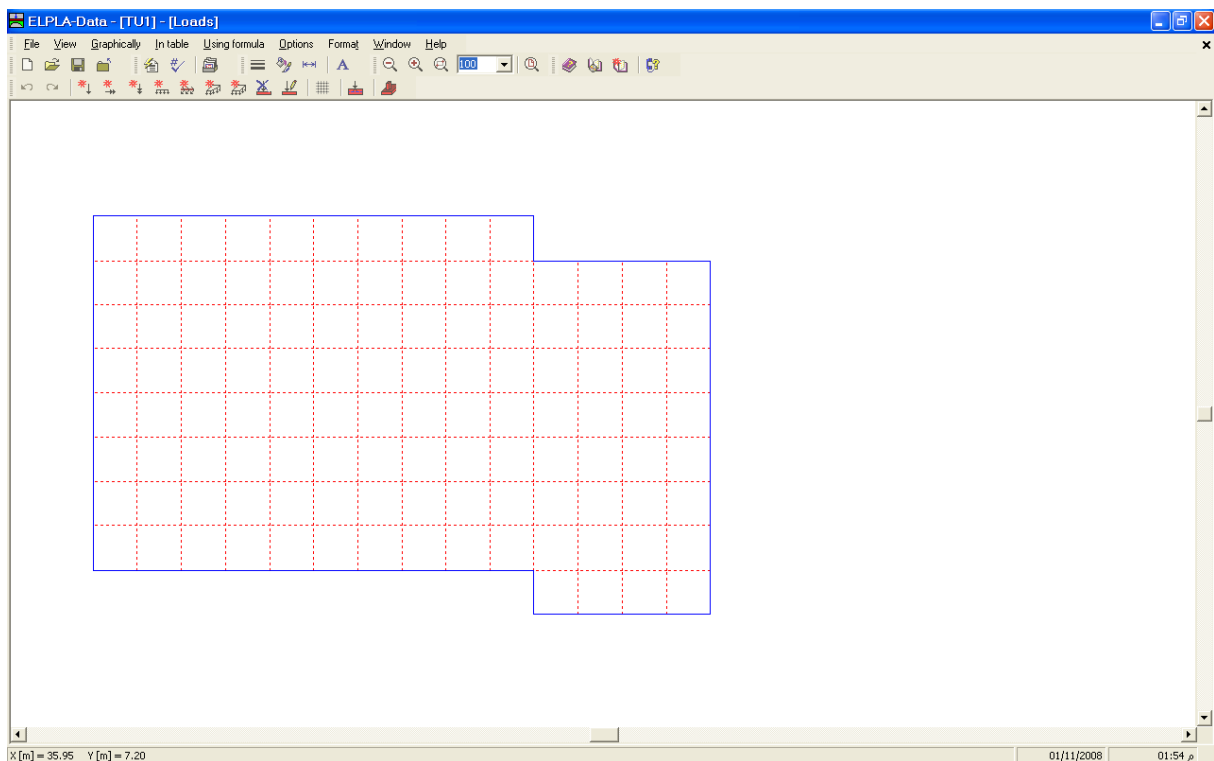
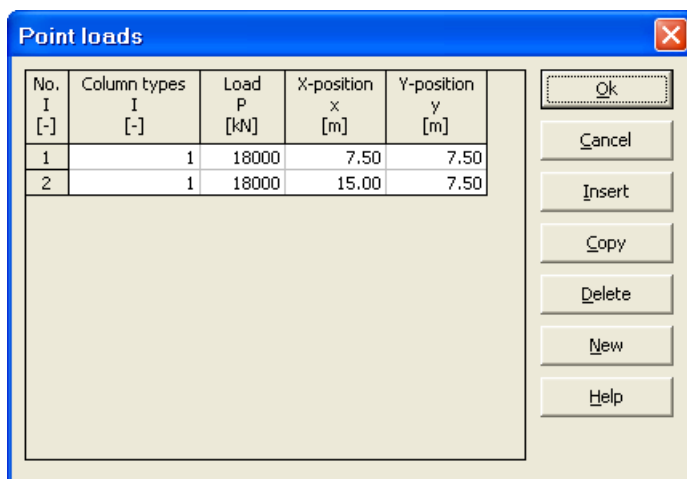

Figure 13-33 "Loads" embedded program
Figure 13-35 "Point loads P " list box
To define the loads, choose "Loads" command from "Data" menu. The following embedded program in Figure 13-33 appears.
In *ELPLA*, entering loads may be carried out either numerically (in a table) or graphically using the commands of "Graphically" menu in Figure 13-33. In this example the user will learn the definition of loads numerically.
- Choose "Column types" command from "In Table" menu in the window of Figure 13-33. The following list box in Figure 13-35 appears with default dimensions $a = 0.5$ [m] and $b = 0.5$ [m]
- Choose "Point loads" command from "In Table" menu in the window of Figure 13-33. The following list box in Figure 13-35 appears
- Enter the external point loads P [kN] and their corresponding coordinates (x, y) in the list box of Figure 13-35. This is done by typing the value in the corresponding cell and then press "Enter" key. The coordinates of the point load are related to the lower-left corner of the foundation (local coordinates)